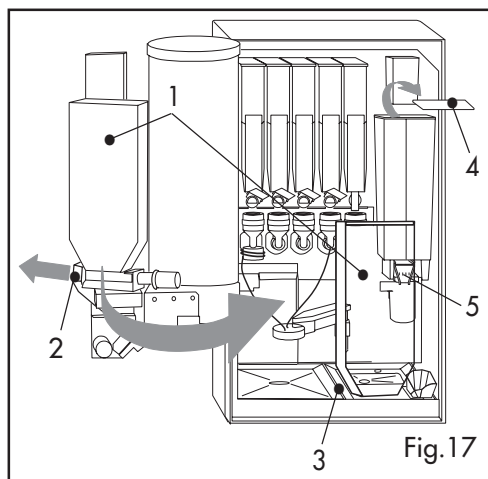

Fig.17
- Remove the sugar chute ref. 2 (Fig. 17) by lifting and turning it.
- Remove the sugar bin ref. 1 (Fig. 17) by lifting it.
- You can use the support seat installed in the drip tray ref. 3 (Fig. 17) to place the bin ref. 1 (Fig. 17) while refilling. Do not exceed 2/3 of the bin capacity.
- Remove the cover ref. 4 (Fig. 17) and fill the hopper. If you need to take out the hopper, first close the bean hopper slide grate ref. 5 (Fig. 17) by pulling it gently out toward you. When the bean hopper slide grate is out, any remaining beans in the hopper are prevented from spilling out.